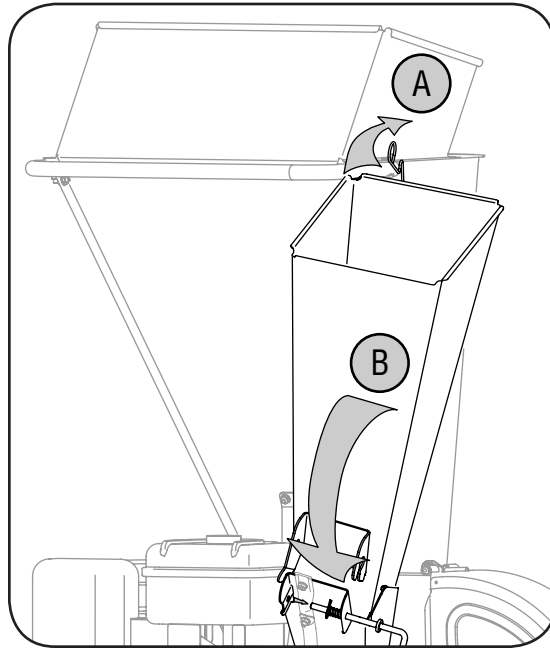

Figure 3-1
- b. Gently pivot the chipper chute down until it clicks into the lock rod. See Figure 3-1.